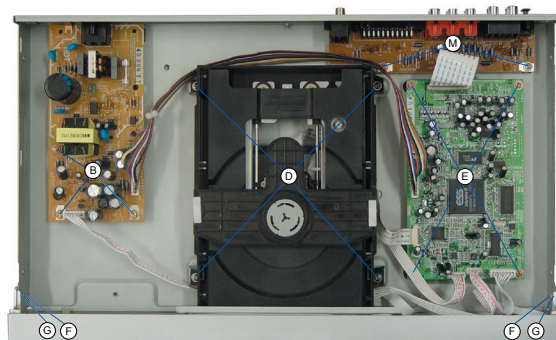

Fig. 2
- Undo the 2 screws F (Fig. 2)
- Undo the 2 locking lugs G (Fig. 2) and then remove the front panel.
- Undo the 4 screws B (Fig. 2).
- Undo the 7 screws E (Fig. 2).
- Undo the 2 screws M (Fig. 2)
- Undo the 4 screws D (Fig. 2)